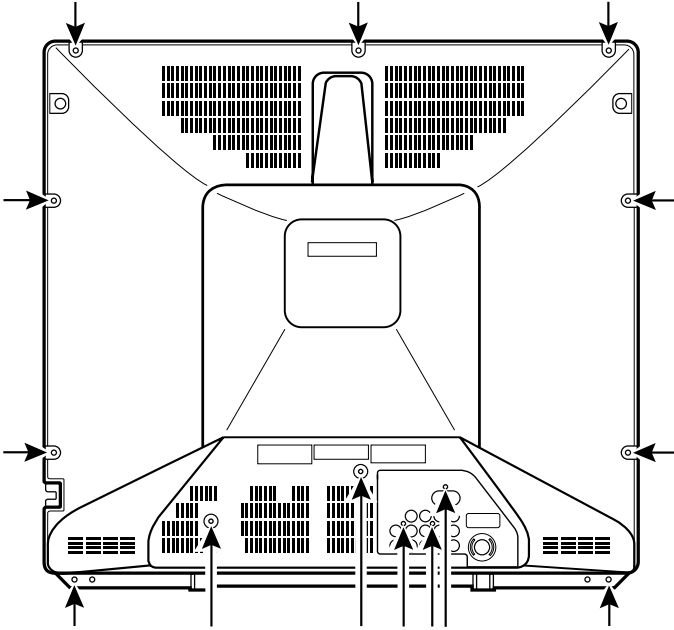

Figure 1. Cabinet Back Removal
1. Refer to Figure 1, remove 14 screws.